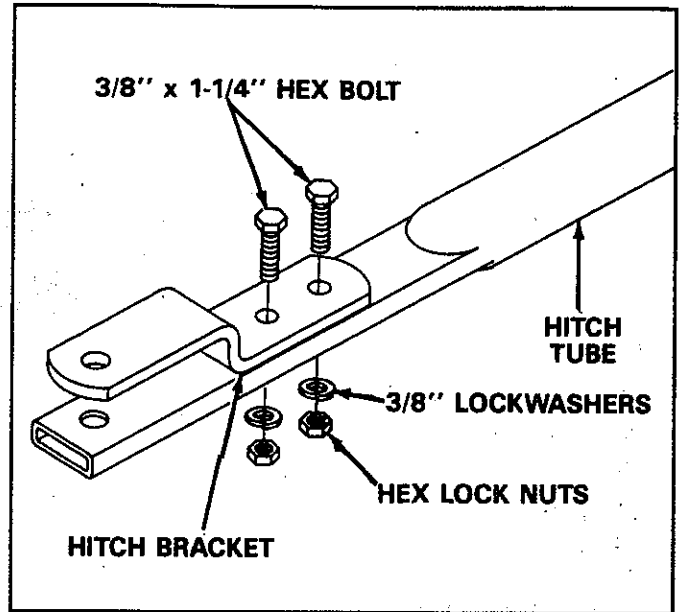

FIGURE 8
- Assemble the hitch bracket to the hitch tube. See figure 8. Secure with two 3/8" x 1-1/4" hex bolts, 3/8" lock washers and 3/8" hex lock nuts. See figure 8.